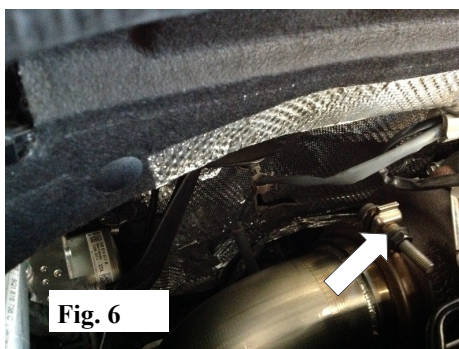

Fig. 6
2. Position **Down Pipe Assembly** to vehicle and secure the ring using the factory hardware clamp. DO NOT TIGHTEN HARDWARE. (See Fig. 6)